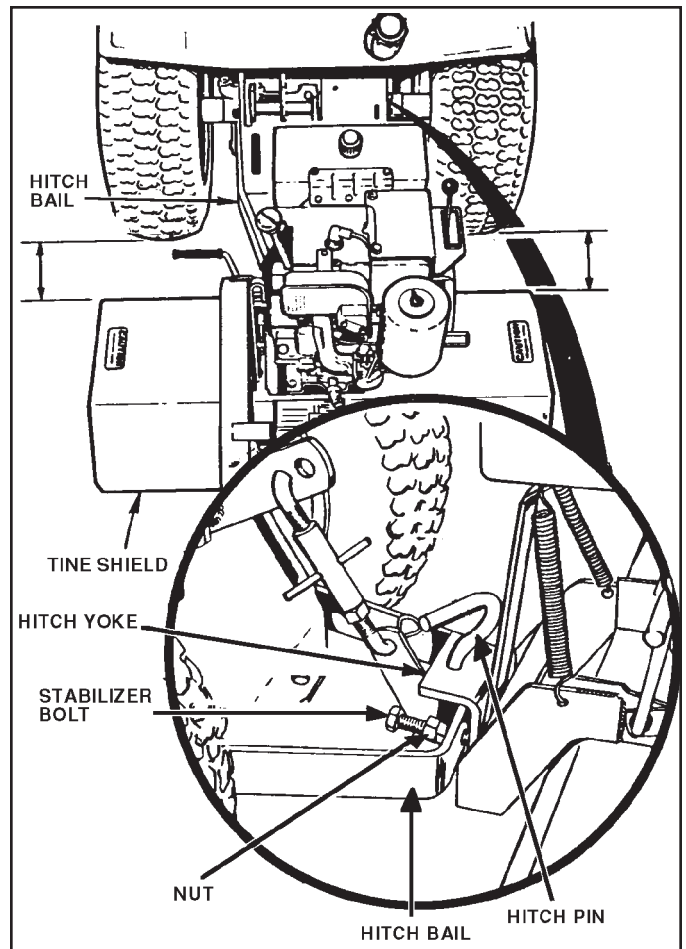

FIG. 2
- Adjust stabilizer bolts so that ends are about flush with rear of hitch bail (Fig. 2 - Inset). Leave nuts loose.
- Lower hitch assembly and slide hitch yoke of tiller (Fig. 2 - Inset) over hitch tube of sleeve hitch so that the hitch pin holes line up.
- Insert hitch pin until it extends from bottom of hitch yoke (Fig. 2 - Inset). Insert retainer spring into hitch pin.
- Tighten both stabilizer bolts against the hitch yoke until there is no looseness at the hitch point. (The frame assembly does not swing sideways relative to the hitch bail (Fig. 2). Be sure the frame assembly is perpendicular (square) to the centerline (direction of travel) of the tractor. This can be determined by measuring the distance between the edge of tine shield (Fig. 2) and the back of the rear tires. This distance should be the same on the R.H. and L.H. sides within 1/2 inch. Securely tighten the nuts on the stabilizer bolts.
NOTE: The stabilizer bolts should be loosened before removing the tiller from the tractor. This will make it easier to remove the hitch pin and to line up hitch pin holes when installing another attachment. If tractor is to be used without a rear attachment, the stabilizer bolt should be secured by tightening the nuts (Fig. 2-Inset).